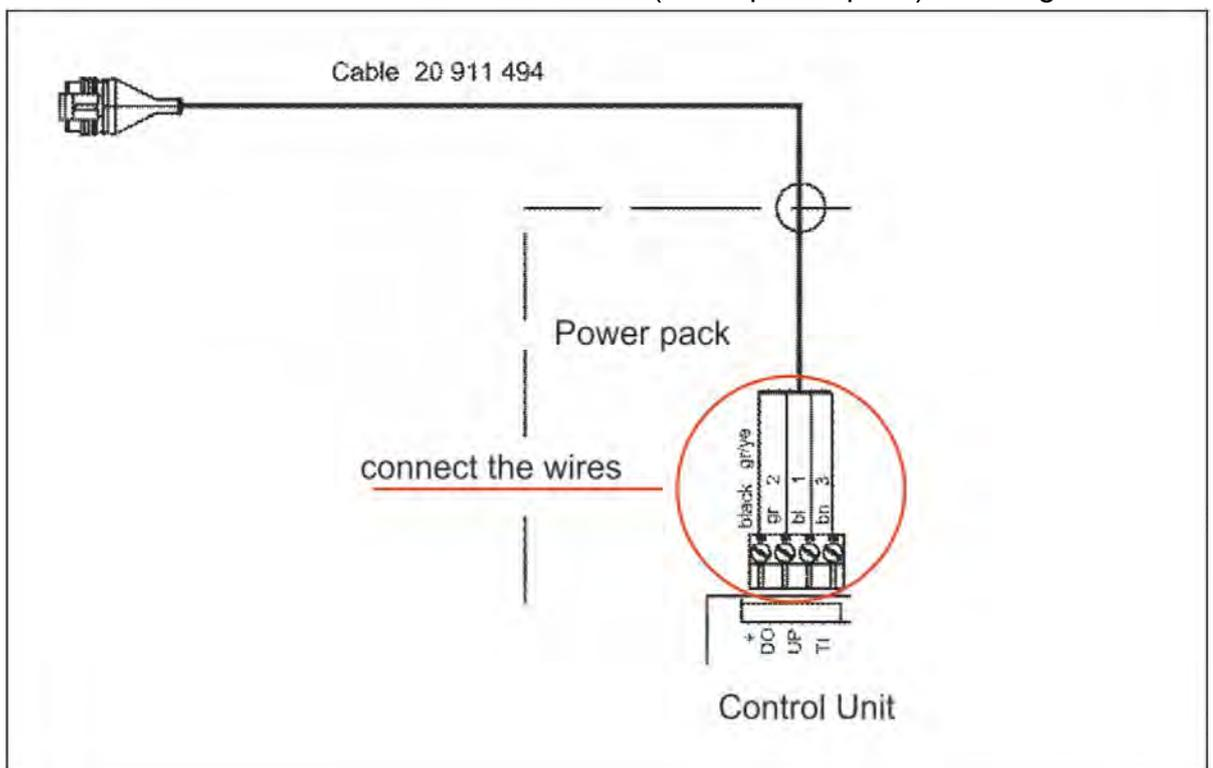

Figure 22
- Then reconnect the wires on the Control Unit (in the power pack) as in Fig. 22.